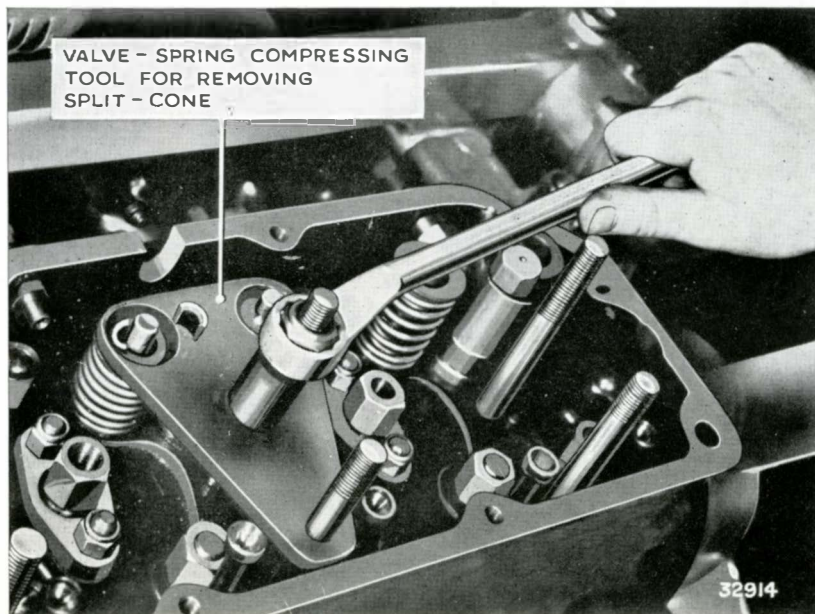

FIG. 22 VALVE SPRING COMPRESSING TOOL
2. Extract the split cone, Fig. 22, and remove the